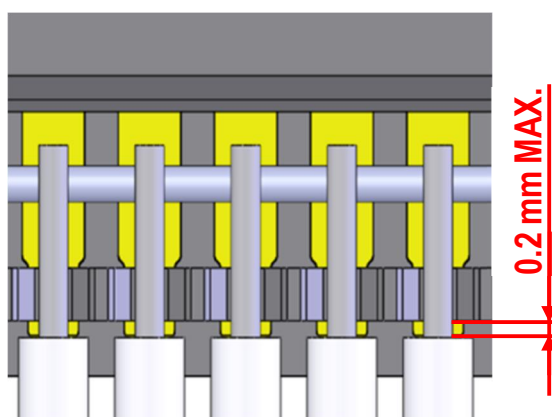

Fig.3 Setting Discrete Wire
- ④ Set the cable or wire.
* To prevent potential contact between the core wire and the shell during discrete wire setting, ensure that a maximum of 0.2 mm is not exceeded, as illustrated in Figure 3.